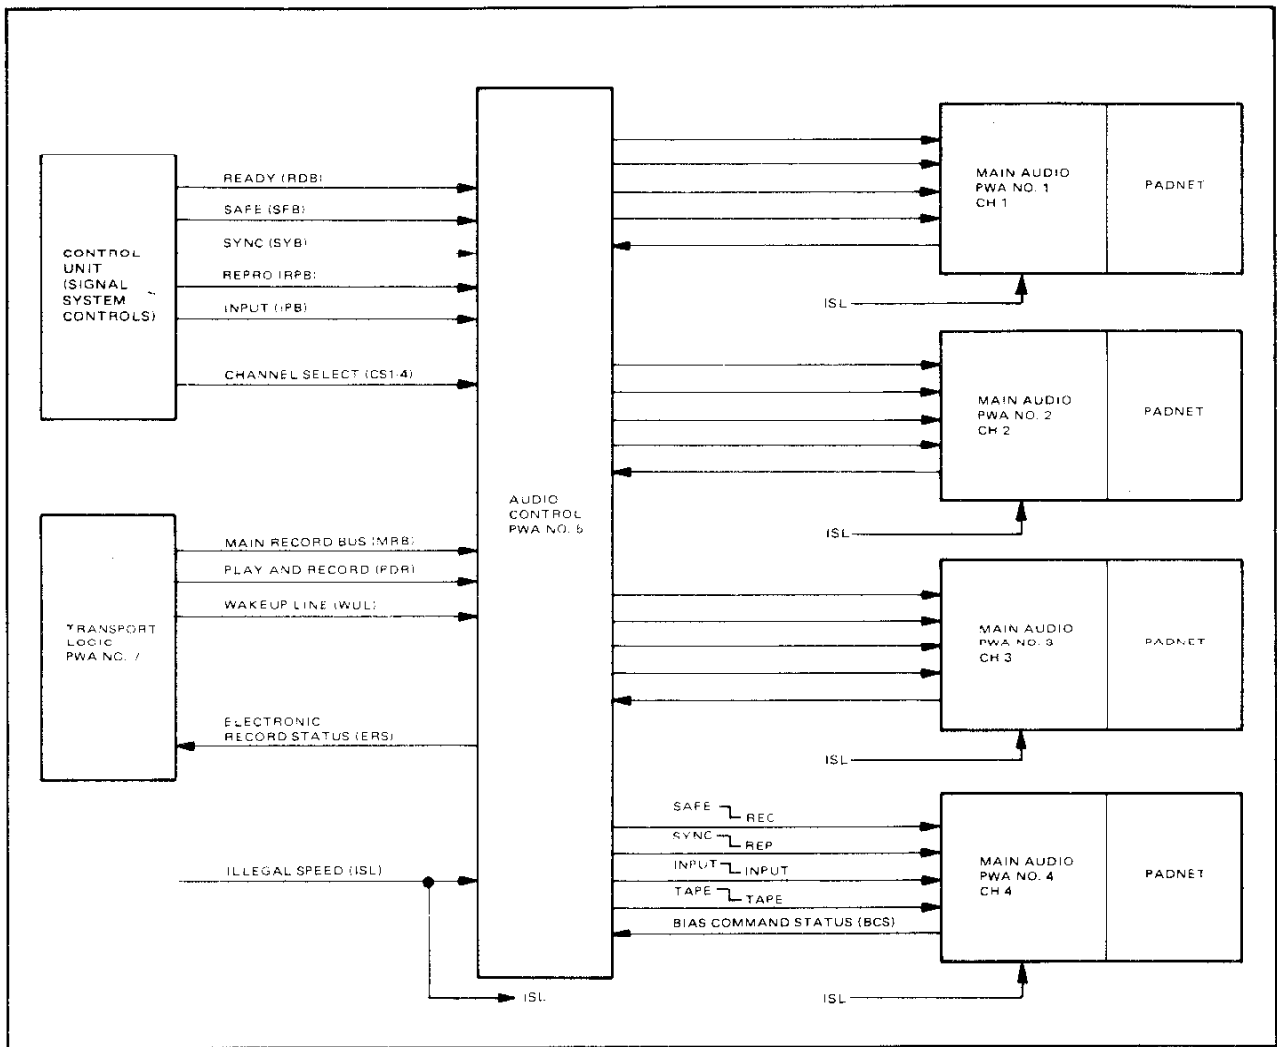

Figure 4-10. Signal Mode Selection, Interconnection Simplified Block Diagram
**4-47. Signal Mode Selection.** Figure 4-10 is a simplified interconnection block diagram of the signal mode selection circuits and Figure 4-11 is a simplified block diagram of the signal mode selection circuits for channel 1. Figure 4-11 shows the relationship and functions of the various circuits that operate to establish a recorder/reproducer signal mode of operation and associated signal mode monitoring. The desired signal mode and channel(s) are selected by pressing pushbutton switches on the recorder control unit. These command signals are routed to audio control PWA No. 5 to program the desired mode of operation. PWA No. 5 contains four separate mode select circuits, one for each channel. Since each circuit operates identically, only channel 1 is described in detail.